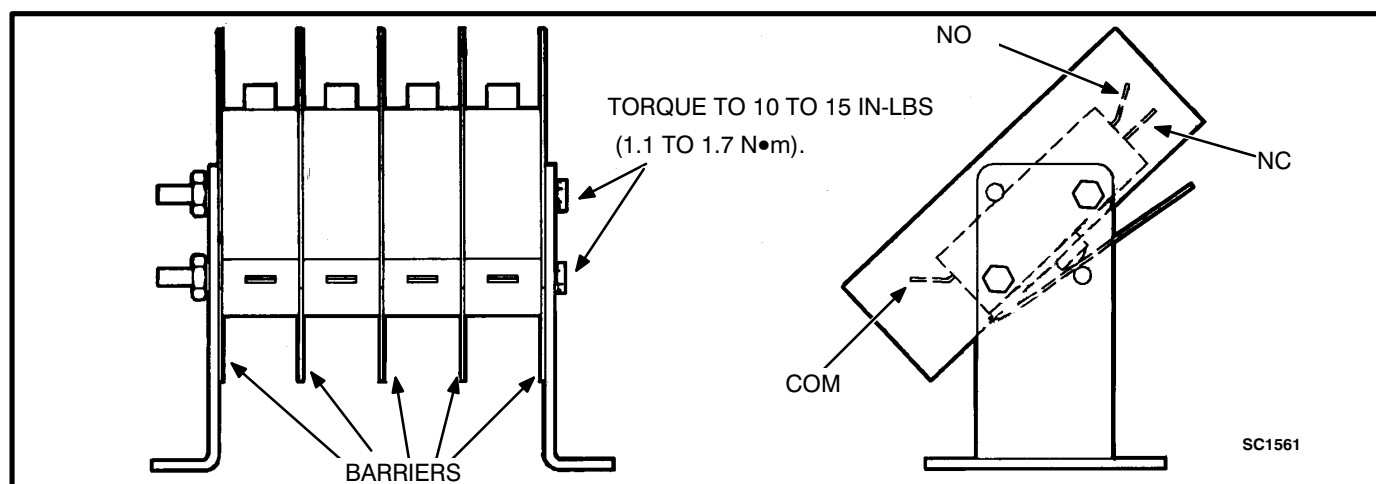

FIGURE 4-10. AUXILIARY SWITCH (150 TO 260 AMPERES)
4. Remove the control wiring leads from the auxiliary switch terminals (Figure 4-10).
7. Remove the hex head capscrews and nuts that secure the auxiliary switches to the brackets (Figure 4-10), and lift out the four auxiliary switches and insulating barriers.
side with two terminals faces inward (Figure 4-10) when the auxiliary switch assembly is installed on the base.